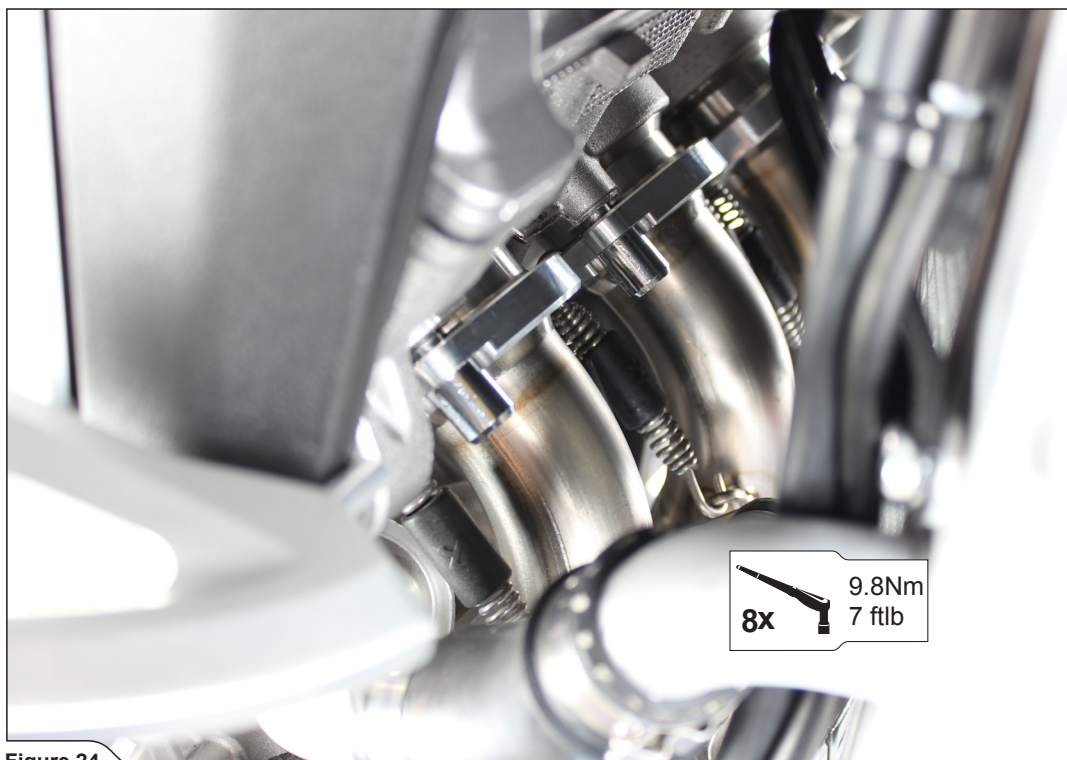

Figure 24
3. Insert the headers into the sleeves, attach the springs, install the link-pipe bracket using nut from Akrapovič installation kit and stock bolt and washer. Attach lambda sensors and tighten the flanges, bracket bolt and both lambda sensors to specified torques (**Figure 24, 25, 26**).